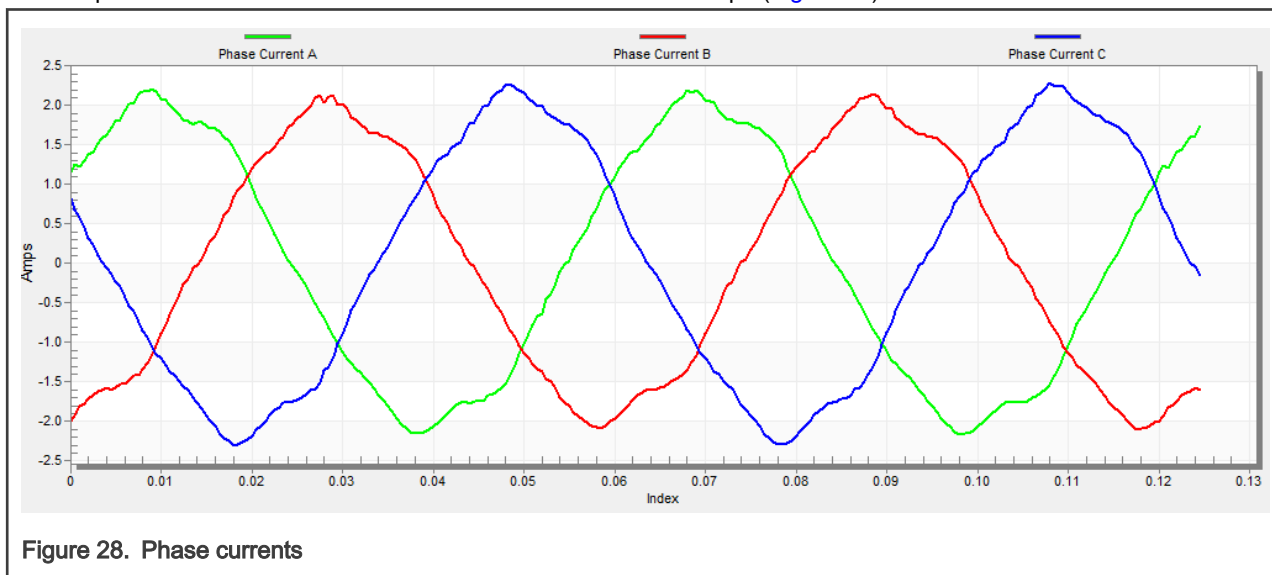

Figure 28. Phase currents
- The optimal ratio for the V/Hz profile can be found by changing the V/Hz factor directly or using the “UP/DOWN” buttons. The shape of the motor currents should be close to a sinusoidal shape (Figure 28).